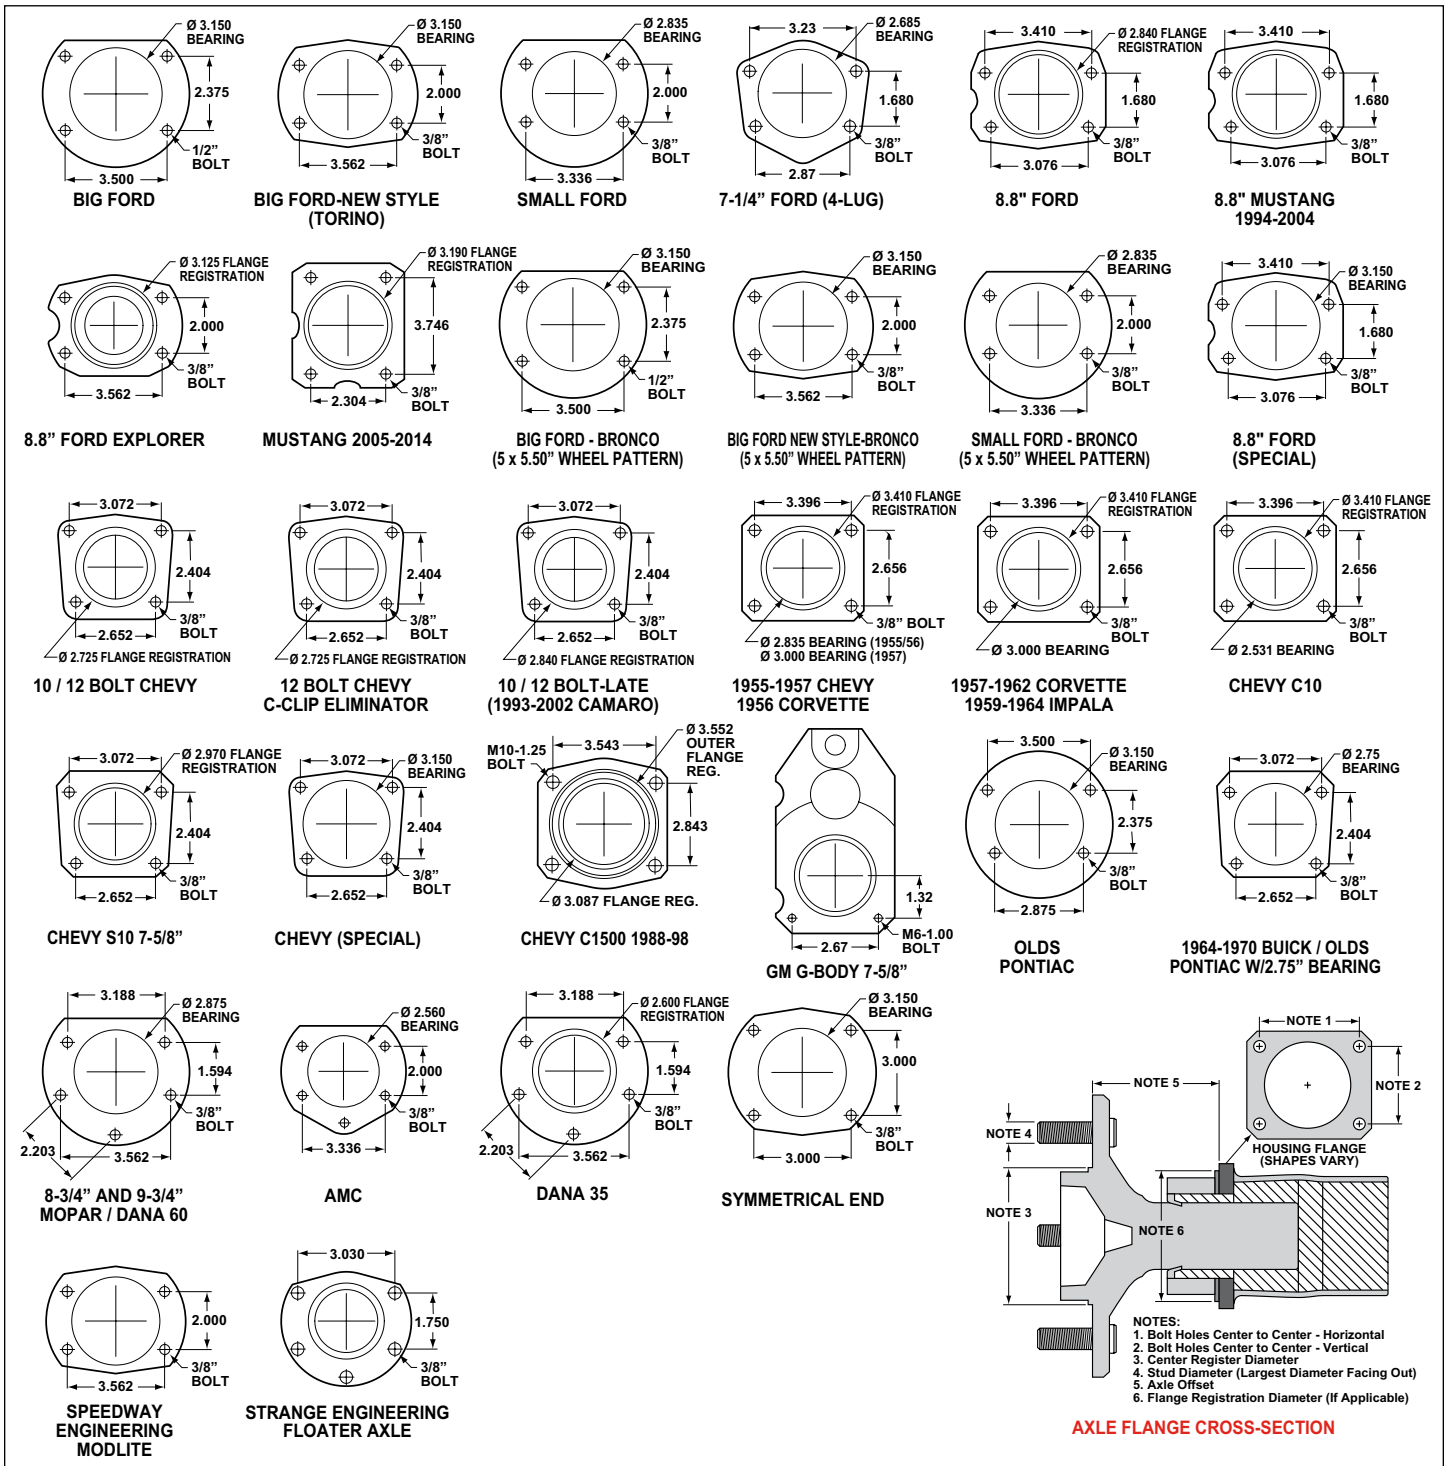

Figure 6. Rear Housing Flange Chart and Axle Flange / Offset Cross-Section
• Make sure this is the correct kit to fit your axle housing flange and axle offset. Multiple rear axle assemblies were available on 1966-77 Ford Broncos. Using Figure 6, check that your rear axle matches the description on page 1 of these instructions (i.e. Big Bearing Ford, 2.36 Offset).
- Dimension from wheel side of axle flange to wheel side of axle housing flange (see Figure 6, lower right hand corner). This dimension is critical to ensure proper alignment of the rotor to the caliper, and should match offset given in the kit description.